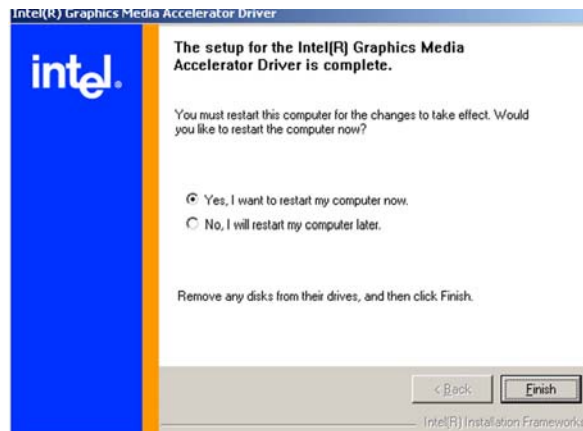

Figure 7-16: GMA Driver Installation Complete
Step 5: After the driver installation process is complete, a confirmation screen shown in **Figure 7-16** appears.
Step 6: The confirmation screen shown in **Figure 7-16** allows user to restart the computer immediately after the installation is complete or to restart the computer later. For the settings to take effect the computer must be restarted. Once decided when to restart the computer, click the “**Finish**” button.